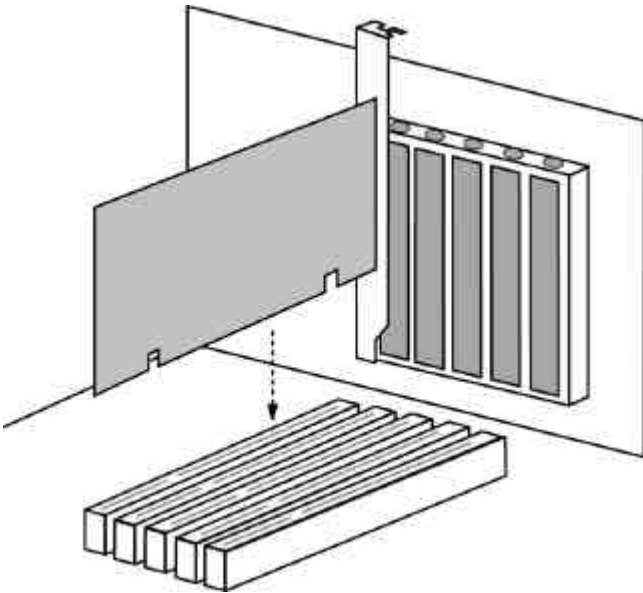

Figure 1
3. Install the FastTrak TX2000 controller card into the open slot (see Figure 1 below).